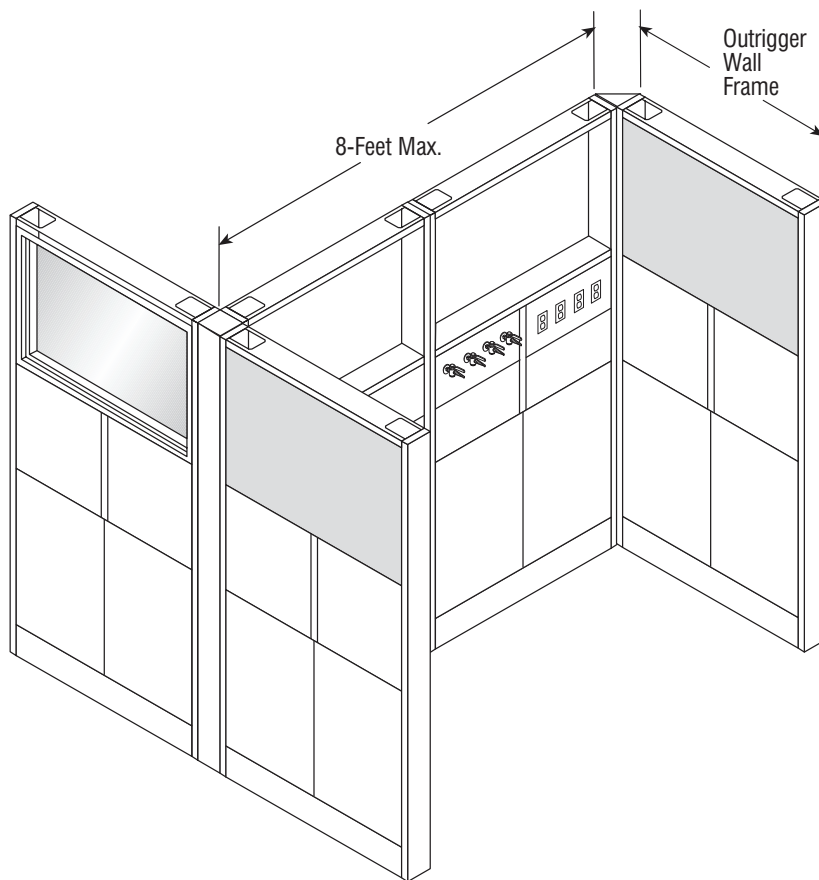

Figure 3-5 Free-Standing Construction
2. Anchor the wall frames to the floor and to each other as instructed in this manual. Use riser plugs at the top of the frames in lieu of riser extensions. See Figure 3-5. This prevents crushing of the risers when they are bolted together.